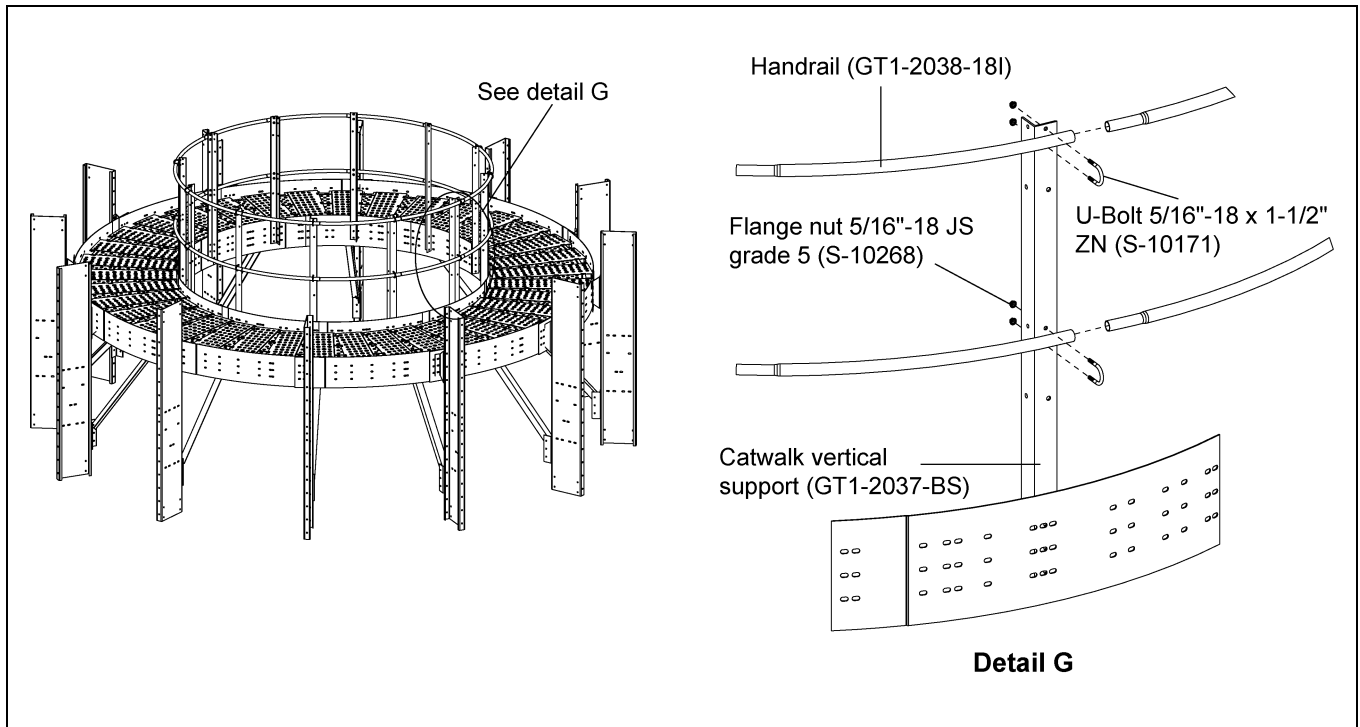
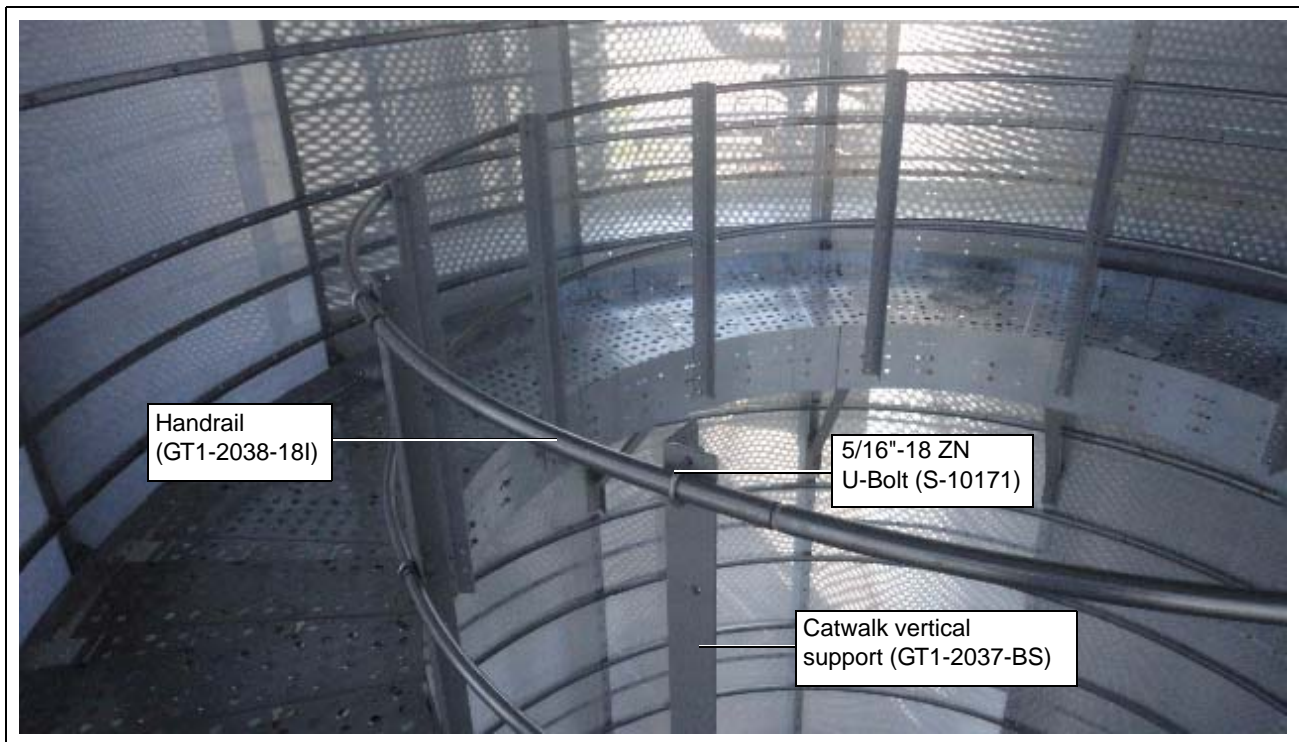

Figure 5L
Figure 5M
1. Install the handrail (GT1-2038-18I) to the catwalk vertical support (GT1-2037-BS) using 5/16"-18 ZN U-bolts (S-10171) and 5/16"-18 JS grade 5 nuts (S-10268) to tighten the handrail with vertical post. (See Figure 5L and Figure 5M.)